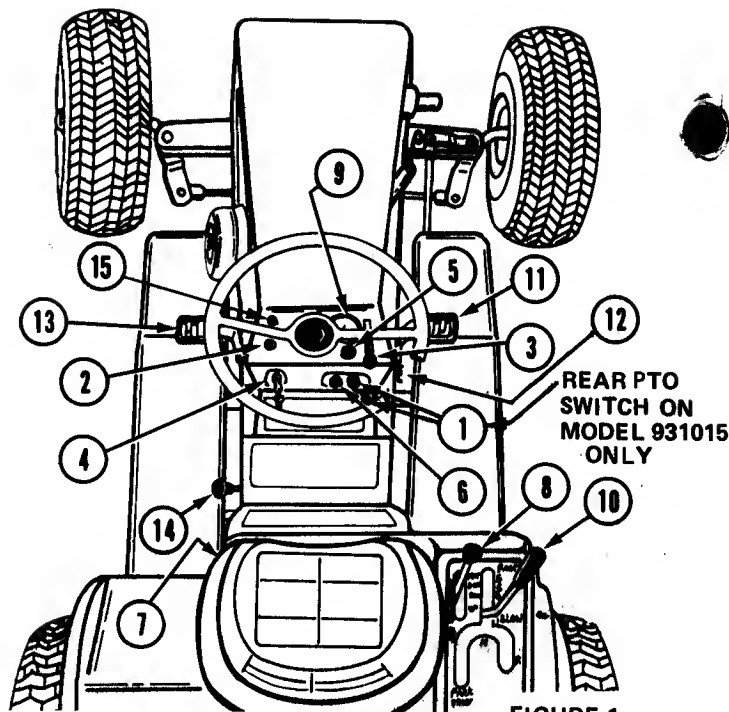
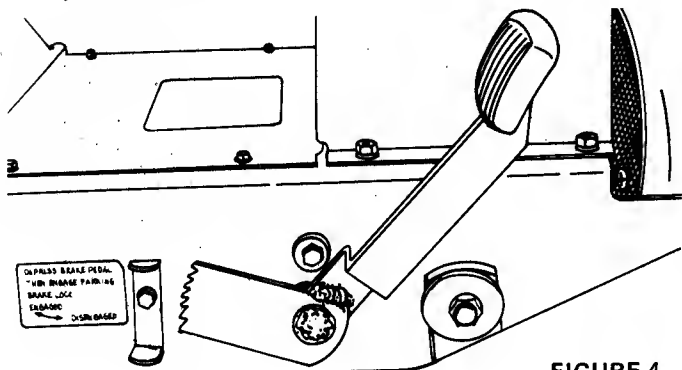

FIGURE 1
FIGURE 4
- ① **Implement Power Control Switch (Figure 1).** Pull the switch out (ON) to engage the electromagnetic clutch to drive the mower and front mounted attachments. (12, 14 and 16 H.P.)
**NOTE:** These switches ① must be pushed in (OFF) to disengage the drive before the engine will start or to allow engine to keep running if the operator gets off the seat.
- ② **Implement Power Indicator Light (Figure 1).** This light glows red when either of the implement power control switches ① is pulled out to indicate that the attachment is engaged.
- ③ **Throttle Lever (Figure 1).** Raise the lever to increase engine speed. Lower the lever to decrease engine speed.
- ④ **Ignition Switch (Figure 1).** Turn the key fully clockwise to start the engine and release when the engine starts. Turn the key counterclockwise to stop the engine.
- ⑤ **Choke Control (Figure 1).** Pull choke control out when attempting to start a cold engine or when starting during cold weather. When engine starts, gradually push choke in. Normally, it is not necessary to use the choke when starting a warm engine.
- ⑥ **Light Switch (Figure 1).** Pull the switch out to turn on the front and rear lights. The ignition key must be turned on before the lights work.
- ⑦ **Seat Interlock Switch (Figure 1).** This switch, located in the seat, is actuated by the operators weight. If the operator leaves the seat for any reason while the PTO is "ON" or the shift lever is not in "PARK START" the PTO clutch and engine ignition are both shut off. When the PTO is "OFF" and the shift lever is in "PARK/START" leaving the seat will not cause the engine to stop.
- ⑧ **Hydraulic Lift (Figure 1)** This lever controls the hydraulic system used to raise and lower attachments. The lever has four positions – UP, HOLD, DOWN and FLOAT. The normal out-of-use position is the "HOLD" position. In this position the attachment will not raise or lower. When it is desired to raise the implement, move the lever to the "UP" position; to lower the attachment move the lever to the "DOWN" position. Place the lever in the "FLOAT" position to allow the attachments to follow the ground contours.
- ⑨ **Ammeter (Figure 1).** The ammeter indicates the rate of battery charge or discharge. The indicator should register on the (+) side of the dial when the engine is running at any speed above a slow idle. When the engine is idling or with a fully charged battery, the ammeter may not show charge. Should the ammeter register on the (–) side of the dial for an extended period of time with the engine running, it indicates the alternator is not charging the battery. Check the battery connections or contact your dealer.
- ⑩ **Hand Control Lever (Figure 1).** This lever regulates both tractor speed and direction. Move the lever for-
- ⑪ **Brake Pedal (Figure 1)** When this pedal is depressed the friction brakes will be applied to stop the tractor, DEPRESS THE NEUTRALIZER PEDAL ⑬ OR RETURN THE HYDRO STATIC CONTROL LEVER TO NEUTRAL BEFORE ATTEMPTING TO STOP THE TRACTOR.
- ⑫ **Parking Brake (Figure 1)** The parking brake is a latch that locks the brake pedal. To apply the parking brake, depress the brake pedal, flip up the parking brake latch. ⑫ To disengage the parking brake, depress the brake pedal and push down the latch.
- ⑬ **Neutralizer Pedal (Figure 1).** When this pedal is fully depressed the hand control lever will return to neutral and the forward or reverse motion of the tractor will stop. KEEP FOOT OFF PEDAL DURING NORMAL OPERATION OR WHEN MOVING THE HAND CONTROL LEVER. The pedal is an optional control for slowing down or stopping. Use of the pedal and hand control lever simultaneously can result in misadjusted hydrostatic linkage.
- Be sure the Implement Power Control Switch ① Figure 1, is pushed in (OFF).
- Raise throttle lever ③ Figure 1, to approximately 1/3 fast position.
- Pull choke control ⑤ Figure 1, all the way out if engine is cold. If engine is warm, little or no choke may be required.
- Turn ignition key ④ Figure 1, clockwise all the way. Release key as soon as the engine starts and push choke button in. In cold weather it may be necessary to push choke in gradually until engine warms up. If engine fails to start on the first attempt, turn key to off, wait a few minutes and try again. Do not operate the starting motor continuously for more than 30 seconds at a time.
To stop the tractor, depress neutralizer pedal completely ⑪ or move control lever ⑩ to neutral, Figure 1, and depress the brake pedal. Then place the control lever in the "Park Start" position and set the parking brake. Figure 4.
1. Move the hand control lever ⑩ Figure 1, in "Park-Start" position and set the parking brake, Figure 4.
2. Disengage Implement Power Control Switches ① Figure 1, and driven attachments.
4. Lower the throttle lever ③ Figure 1, and allow engine to idle for a short period before turning it off.
5. Turn the ignition key ⑥ Figure 1, counterclockwise to stop engine.